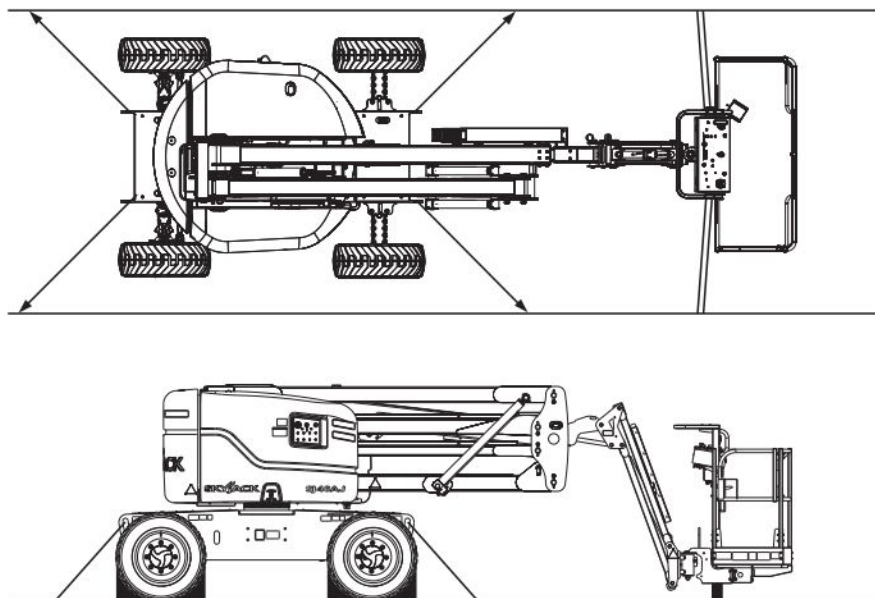

Figure 3-4. Tie-down Points
6. Anchor down aerial platform to transport surface using tie-down points (refer to Figure 3-4).